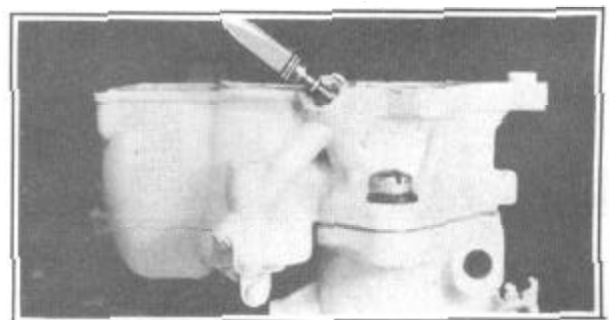

FIGURE 30
11. Install pump jet and pump jet passage plug and gasket assembly, Figure 30. (Be sure jet is clear of all restrictions and seats properly.)